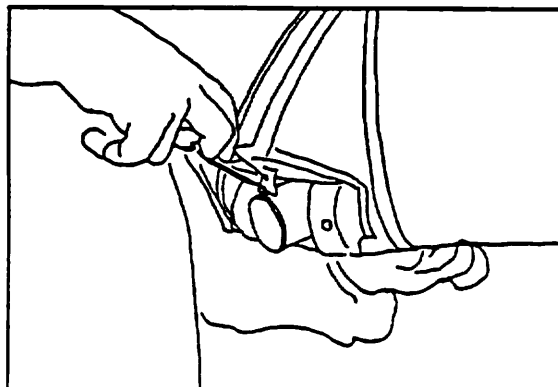

Figure 26
17) Push the nose batten all the way back into the sail, lifting the tip over the top of the keel until it is seated on top of the keel. (Figure 26)